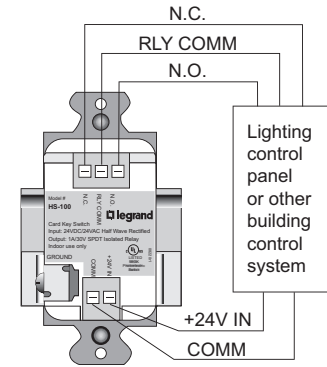

Figure 3: Class 2 wiring to building control system
2. Insert wires into the terminals on the HS-100 as indicated in these instructions for either power pack wiring (Figure 2) or building control system wiring (Figure 3). Make sure they are securely clamped.